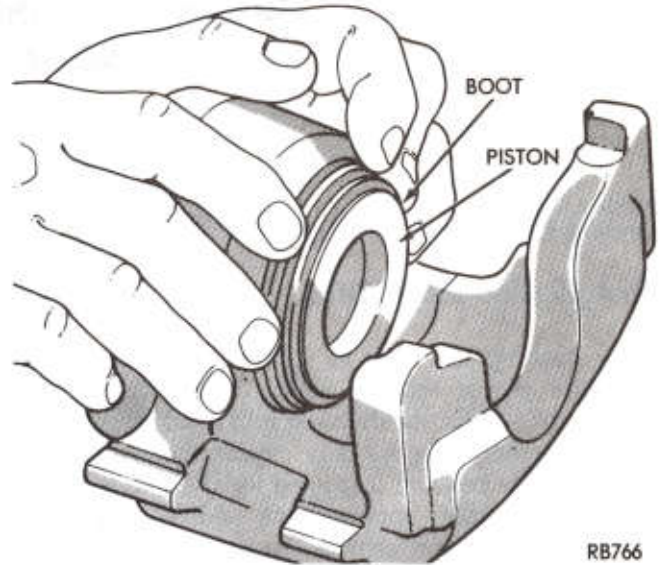

Fig. 15—Installing Piston through Boot
- (5) Install piston into bore pushing it past the piston seal until the piston bottoms in the bore (Fig. 15).